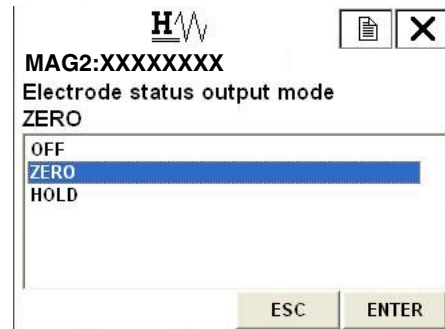

Figure 87.
- Figure 87 is then displayed.
2. Once the display as shown in Figure 87 appears, move the arrow key up or down to select an Electrode status output mode. After marking a selection, press F4 (ENTER). OFF, ZERO, or HOLD can be selected. If F3 (ESC) is pressed here, the selection is canceled and the display returns to the Noise immunity menu.